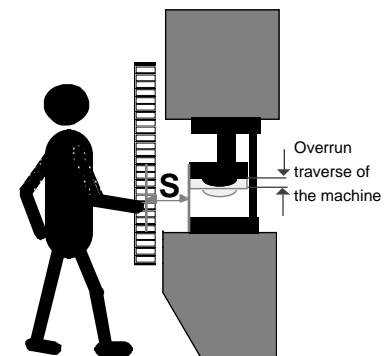

Bild 6/2 Ssafety distance and overrun traverse
**Protective field height** (Fig. 6/1)